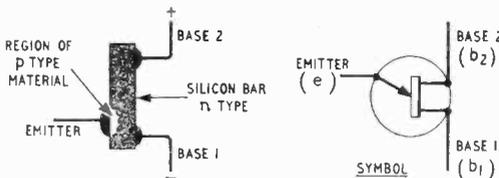

Fig. 1. Construction of unijunction transistor.
**Characteristics:**—The unijunction comprises a bar of n-type silicon with two ohmic (i.e. non-rectifying) contacts, one at each end. These are designated base 1 and base 2—Fig. 1. A third rectifying contact is made on the other side of the bar, near to base 1. The bar behaves as a linear resistance of, typically, between 5 and 10 kΩ. In normal operation base 2 is biased positively with respect to base 1, causing a small inter-base current to flow. With no emitter current flowing the bar behaves as a potential divider with a proportion  $\eta$  (known as the intrinsic stand-off ratio) of the inter-base voltage appearing at the emitter junction, effectively back-biasing the emitter diode by this amount. Thus the emitter diode will only conduct when the emitter-base 1 voltage is more positive than